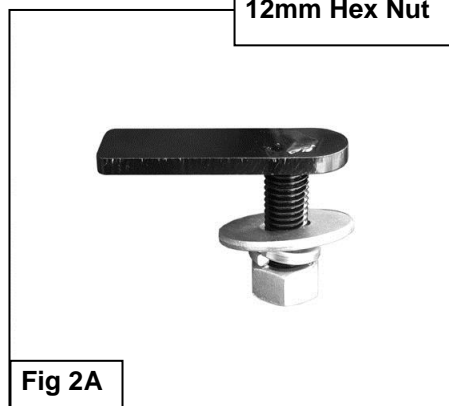

Fig 2A
1. Starting at the driver side front of the vehicle, locate the three factory holes, (1 round and 2 oval holes), in the bottom of the left front floor panel, **(Figure 1)**. Insert (1) 12mm x 35mm Bolt Plate into the smaller, (inner), oval hole and feed the threaded end back out through the larger, (outer), oval hole, **(Figures 2A & 2B)**. Next, insert (1) 12mm Bolt Plate into the oval hole in the bottom of the inner frame channel, **(Figure 3)**.